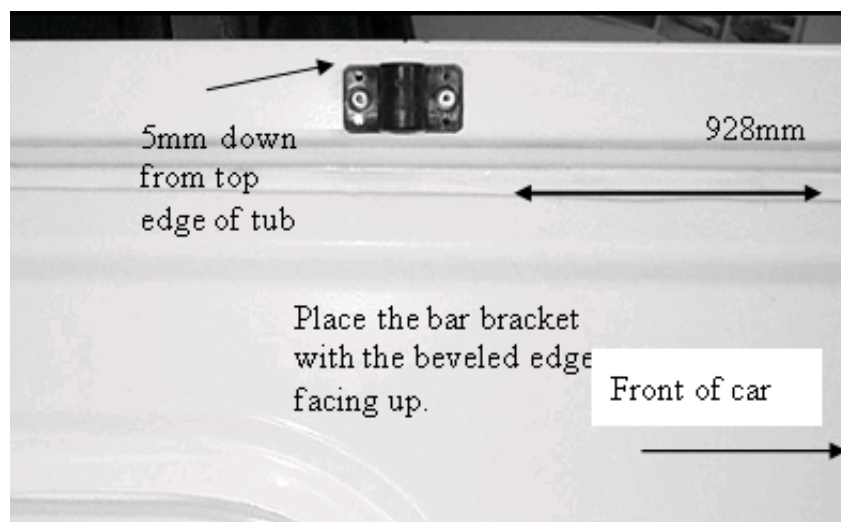

Figure 2
5. To fit bar brackets measure 928mm back from the inside front edge at the top of the tub and place them as shown in **Figure 2**. (5mm down from top edge of tub). Drill and rivet using two large rivets for each Bar Bracket. Install support bar according to supplied instructions.